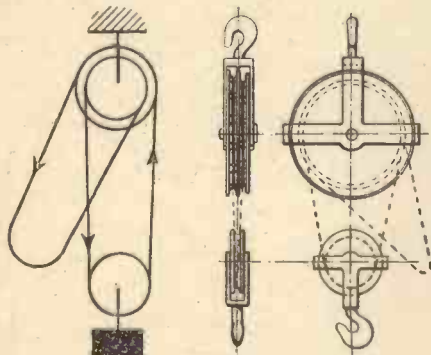

Fig. 1.—The differential pulley problem.
**The Problem:** In the diagram (Fig. 1) of a differential pulley the radii of the upper sheaves are 10 centimetres and 9.5 centimetres. What is the velocity ratio and what (efficiency being 40 per cent.) is the mechanical advantage?